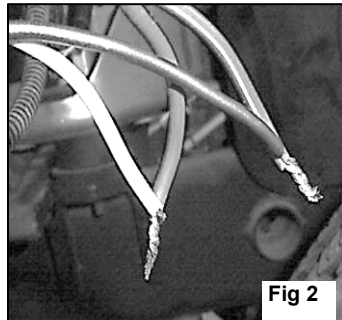

Fig 2
2. Strip back the insulation and twist the factory wiring onto the wiring in the supplied marker light. Fig 2